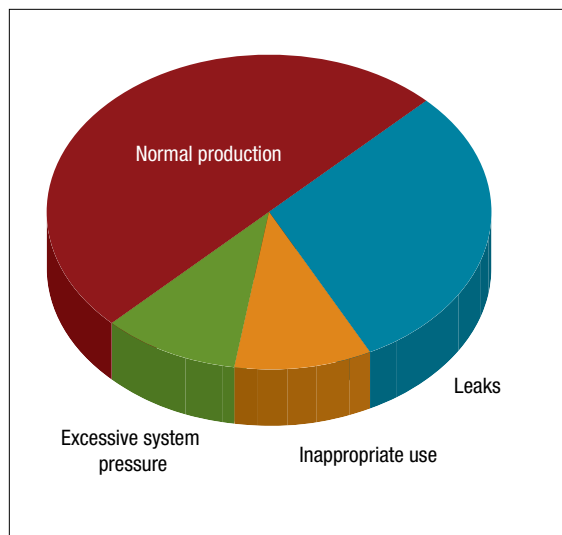

Figure 1. It is not unusual for 50% of the air to be wasted in plant compressed-air systems.
- 50% of the compressed air generated is lost to production (Figure 1).